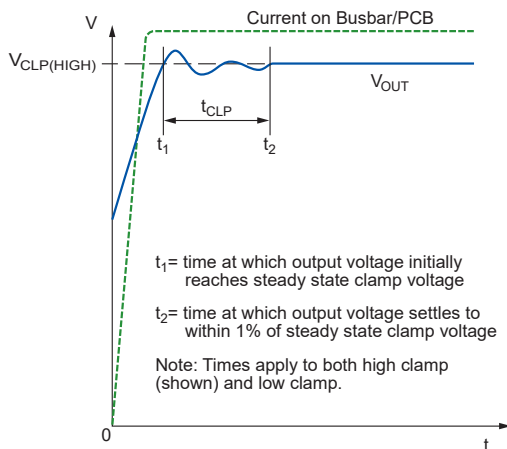

Figure 42: Delay to Clamp
**Delay to Clamp ( $t_{CLP}$ ).** A large magnetic input step may cause the clamp to overshoot its steady-state value. The delay to clamp,  $t_{CLP}$ , is defined as: the time it takes for the output voltage to settle within  $\pm 1\%$  of the clamp voltage dynamic range, after initially passing through its steady-state voltage, as shown in Figure 42.